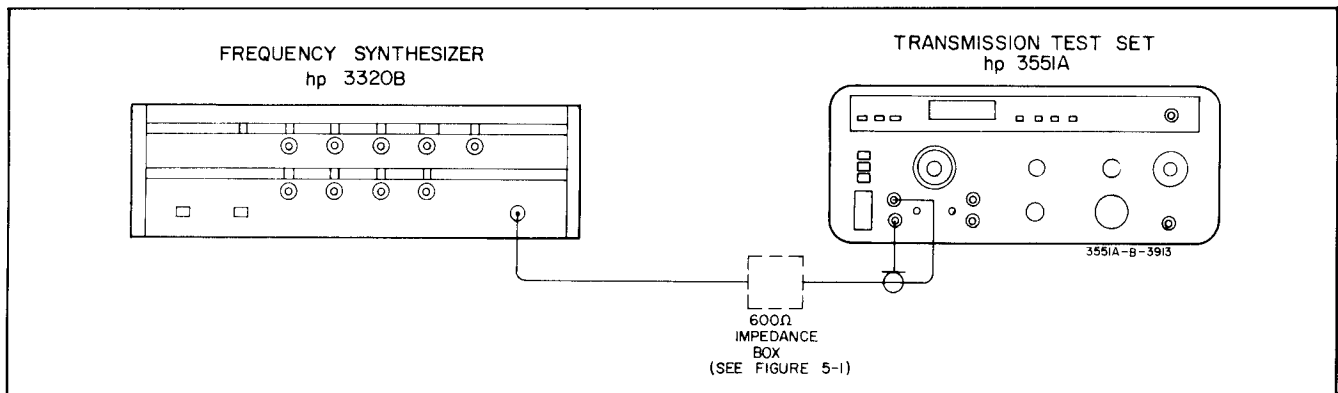

Figure 5-3. Frequency Accuracy Test Setup.
- Connect the equipment as shown in Figure 5-3.